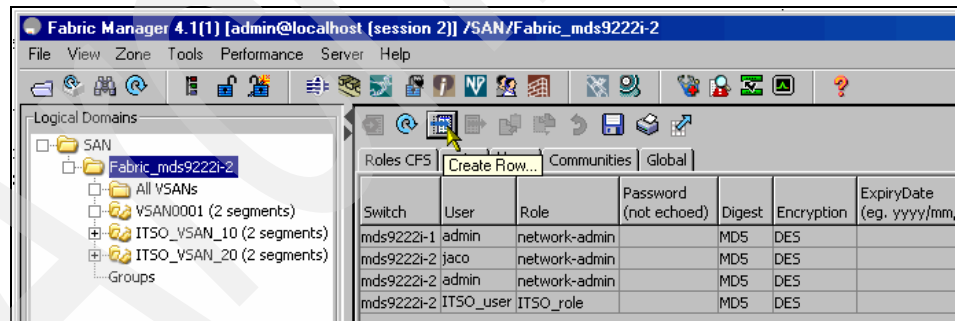

Figure 6-32 Selecting create row icon
2. Select the **Users** tab and click the create row icon, as shown in Figure 6-32.